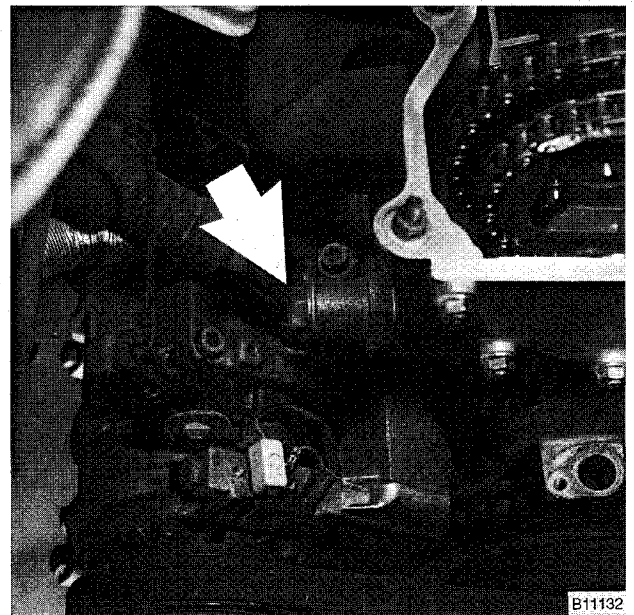

Fig. 25. Primary chain tensioner plug (arrow).
20. Remove primary chain tensioner plug and primary chain tensioner. See Fig. 25.